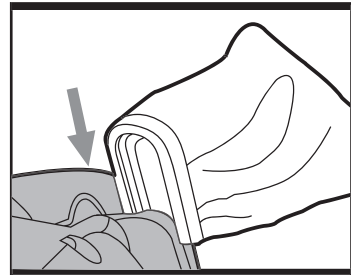

Fig 6
You must use the dust collection bag provided to collect the dust produced during sanding. The dust collection bag plastic bracket slides down onto the dust outlet on the belt sander (See Fig 6). When the dust collection bag is full, remove and empty bag by opening the zipper on the dust collection bag (7).